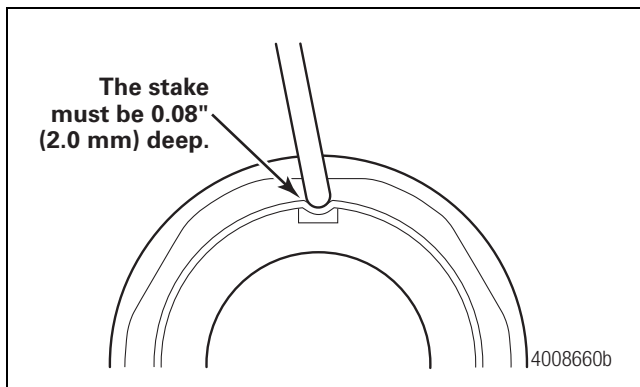

Figure 14.4
11. Stake the nut by deforming the flange into the channel on the spindle at two locations 180 degrees apart. The stake must be 0.08-inch (2.0 mm) deep. Figure 14.4.